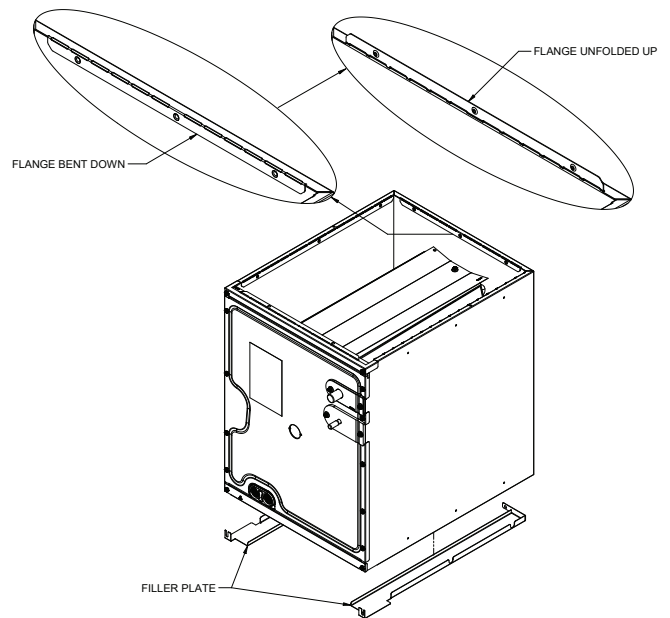

Figure 10
1. Top flanges can be bent for ease in installation to the duct flanges. (See Figure 10)
Filler plates are supplied on all 17.5, 21, & 24.5 inch chassis to be used for adapting the unit to a furnace one size smaller. If the plenum and furnace openings are the same size, the filler plates must be removed. See Figure 10.
IMPORTANT NOTE: To prevent cabinet sweating and airflow leak, apply field provided insulation tape along all joining surfaces between the coil, gas furnace, duct work and panels. See Figure 10.